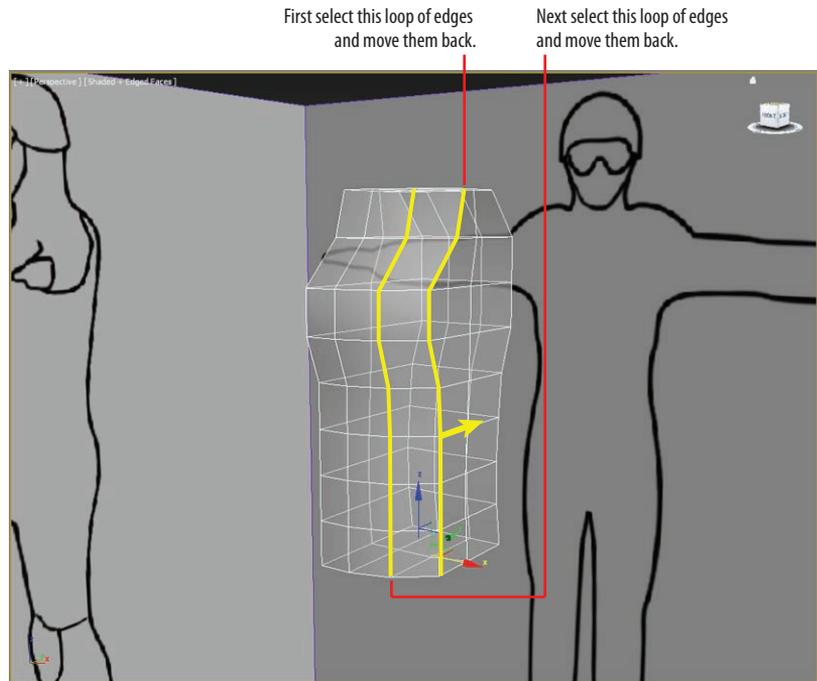

FIGURE 7.8 Select and move edges toward the back of the model.
10. Now round the side of the torso. You should still be in Edge mode. Double-click on one of the edges running vertically on the side of the torso box; this is a shortcut to the Loop tool on the Modify Selection panel in the modeling ribbon. Move the loop of edges toward the back of the model to begin rounding the torso. Refer to Figure 7.8.
11. Then select the loop of edges to the left of the previous one and move them back to form a more rounded front to the torso, as shown in Figure 7.8.